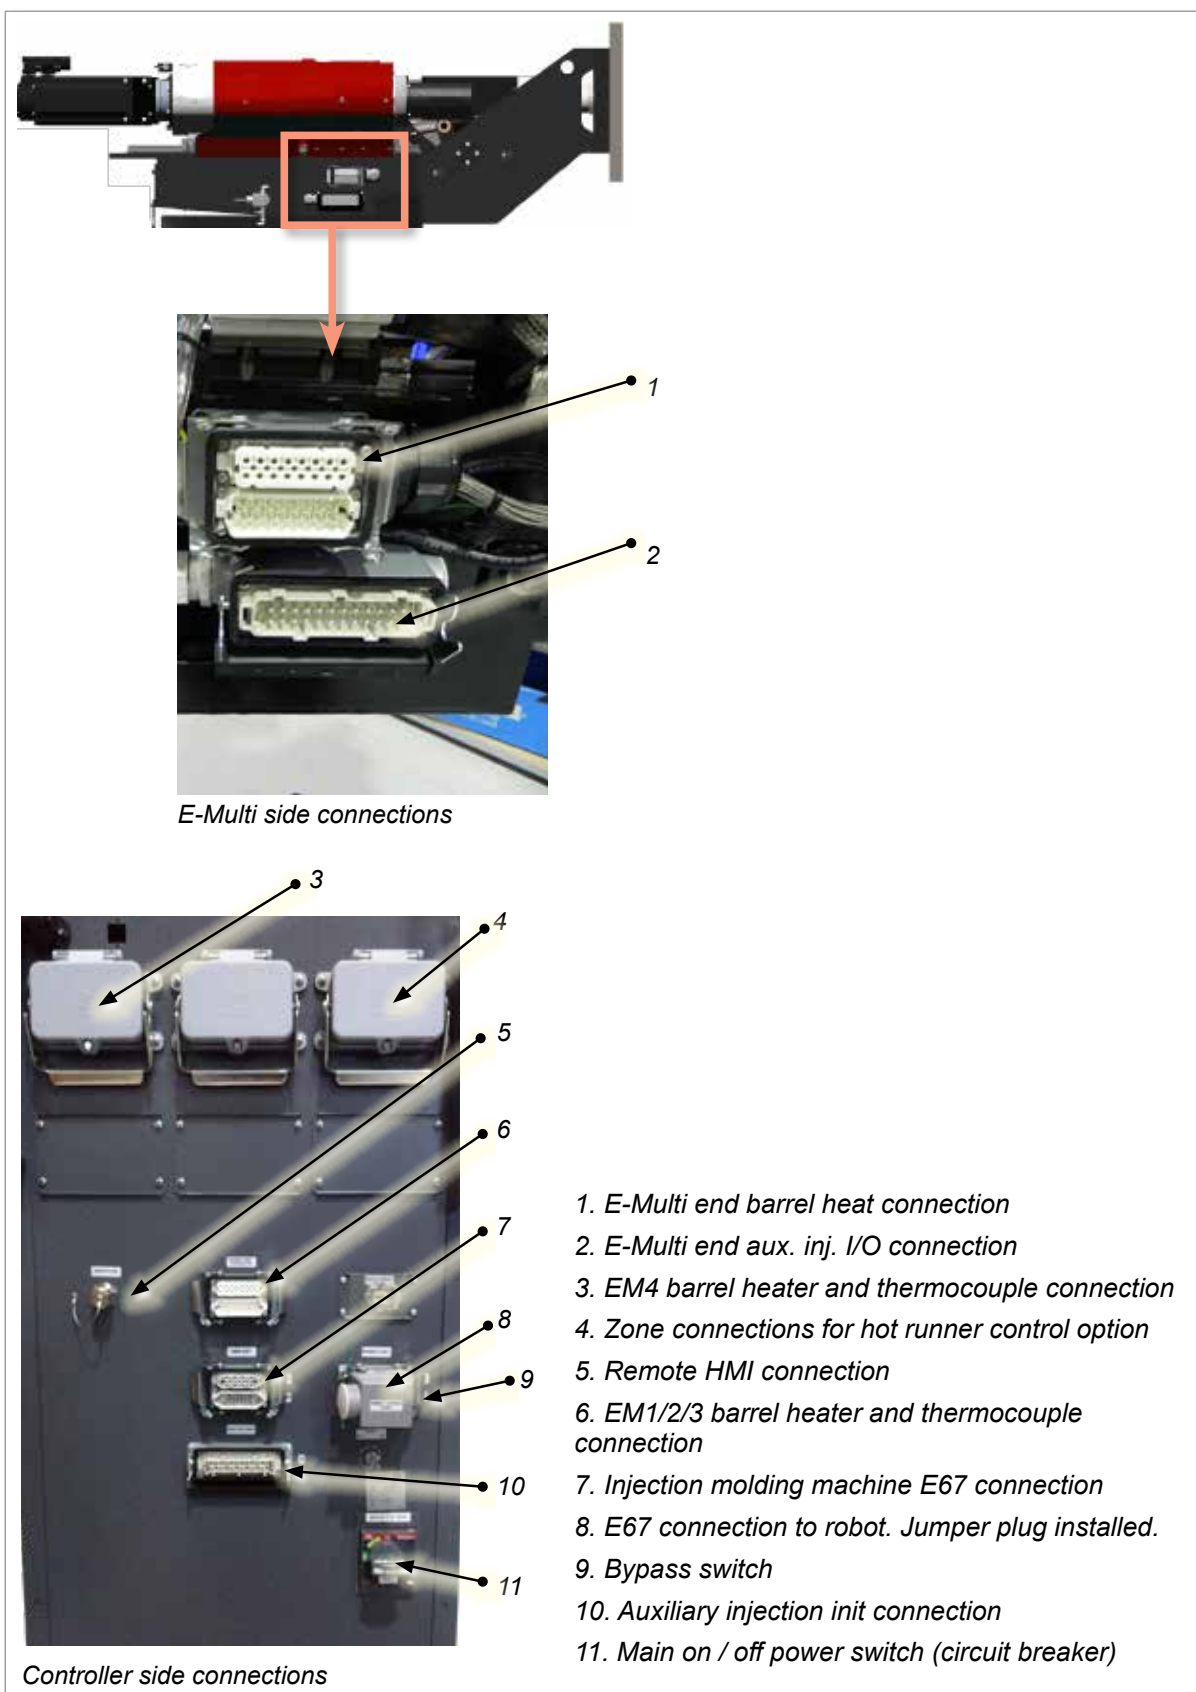

Figure 7-4 E-Multi connection locations
5. Connect the "CONTROLLER END" of the cables to the "BARREL HEAT CONNECTOR" and "AUX INJ. UNIT" connectors on the controller. See Figure 7-4 on page 7-3.
If no robot is used, connect the robot jumper plug to the “ROBOT E67” connector on the controller (see Figure 7-4 on page 7-3).